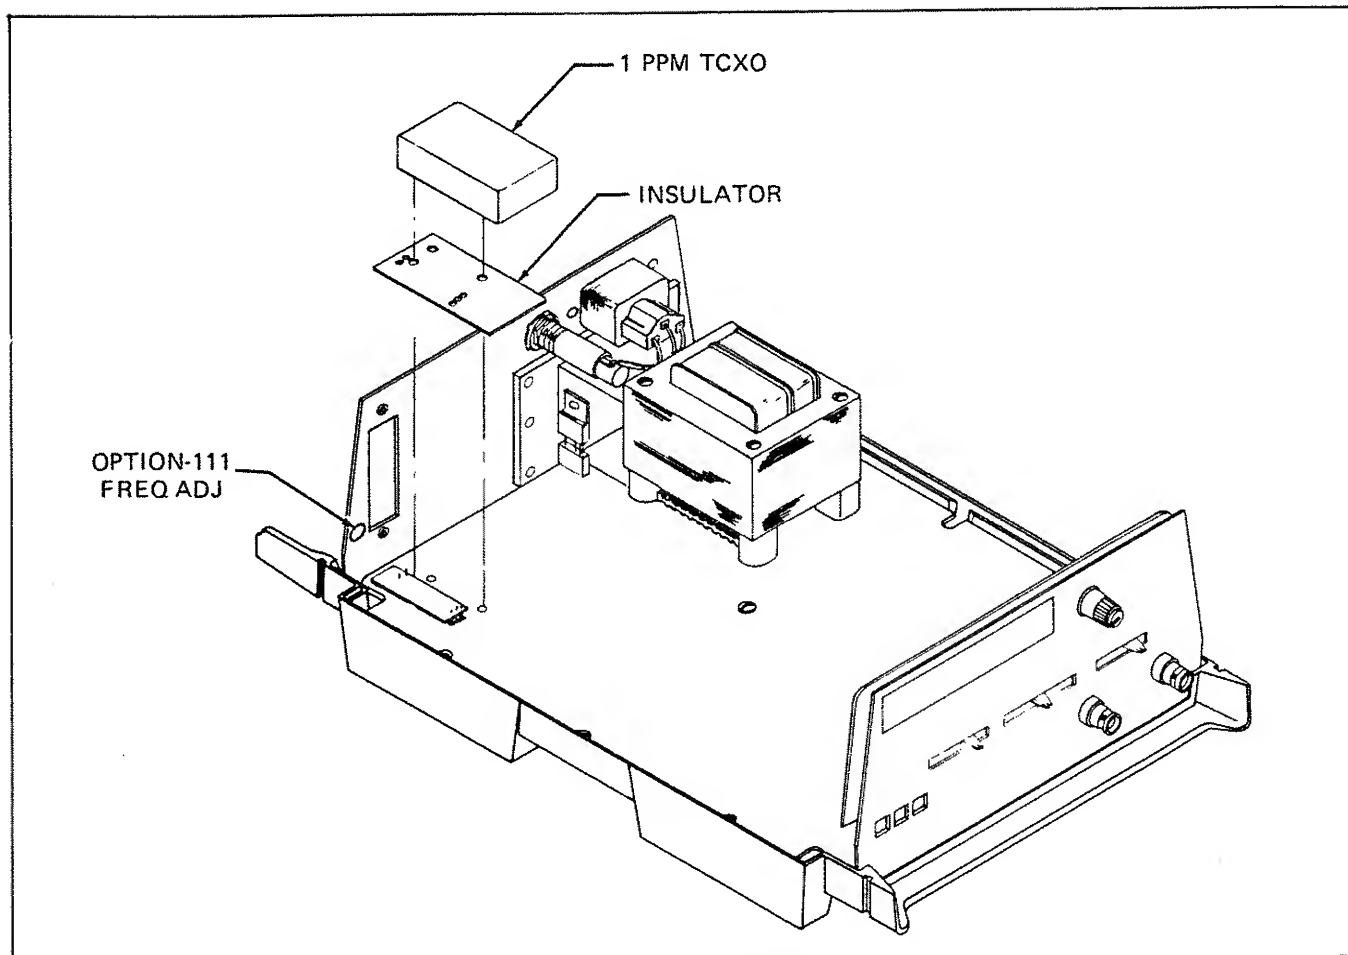

Figure 111-2. Installation
2. Refer to Figure 111-2 and install the insulator and the TCXO.